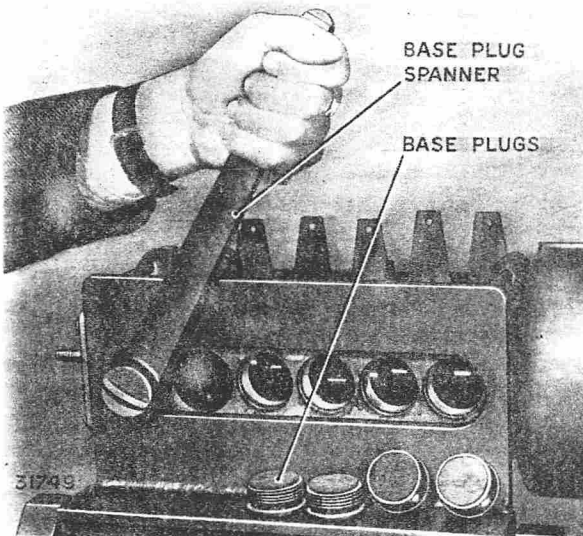

FIG. 26. REMOVING BASE-CLOSING PLUGS
5. Unscrew the base closing plugs (Fig. 26).